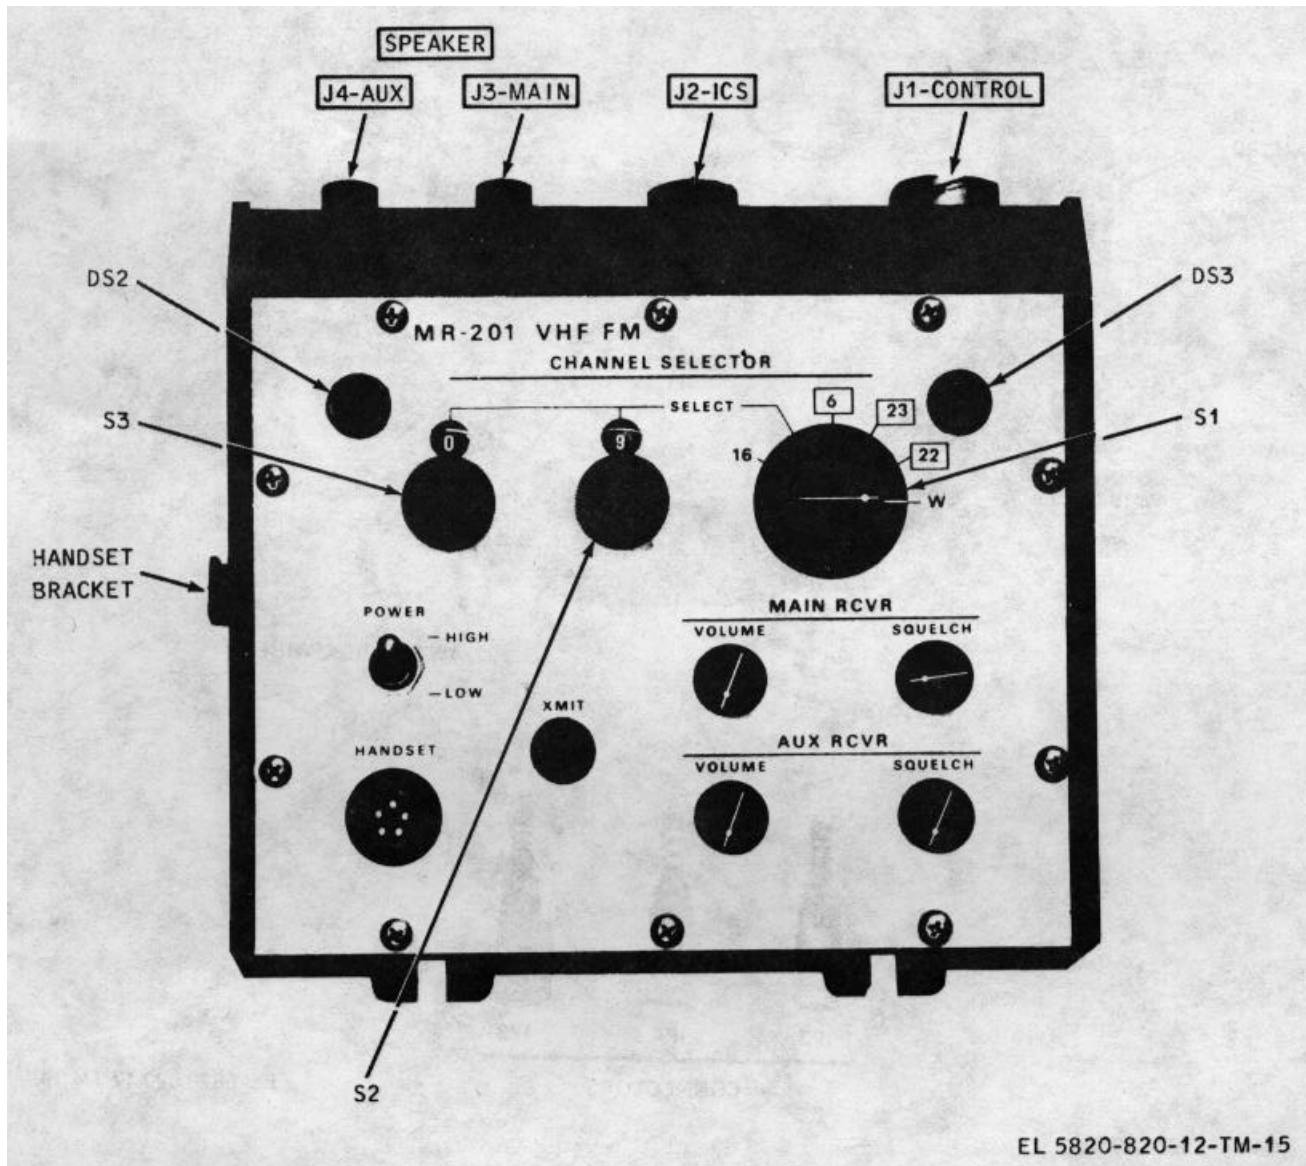

Figure 1-3. Receiver-Transmitter Control C-8981. URC-80[V].
b. *Receiver Transmitter Control C-8981 /URC-80[V].* Receiver-Transmitter Control C-8981,/URC-80(V) (control unit) (figure 1-3) is a waterproof control unit that interfaces all the units of Radio Set AN/URC-80(V)1/3. All the controls and indicators required to operate the radio set except the power ON-OFF switch are located on the front of the control unit.